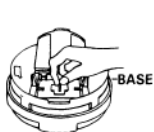
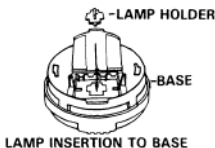
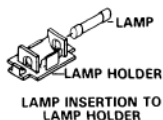

FIGURE 10
FIGURE 10A
FIGURE 10B
**LAMP REPLACEMENT:** The Safety Light uses a 6.3 volt 250mA fuse type lamp which has an average life of 50 hours. If the Safety Light does not operate with a fresh alkaline battery, replace the lamp. To replace the lamp, remove the alarm from trim ring by following the ALARM REMOVAL instructions at the beginning of this section. Open the battery door and remove both batteries from the unit. Grip the lamp holder with your thumb and finger (see Figure 10) and pull out the lamp holder assembly (see Figure 10A). Slide the old lamp out of the lamp holder and replace it with a new lamp (see Figure 10B).